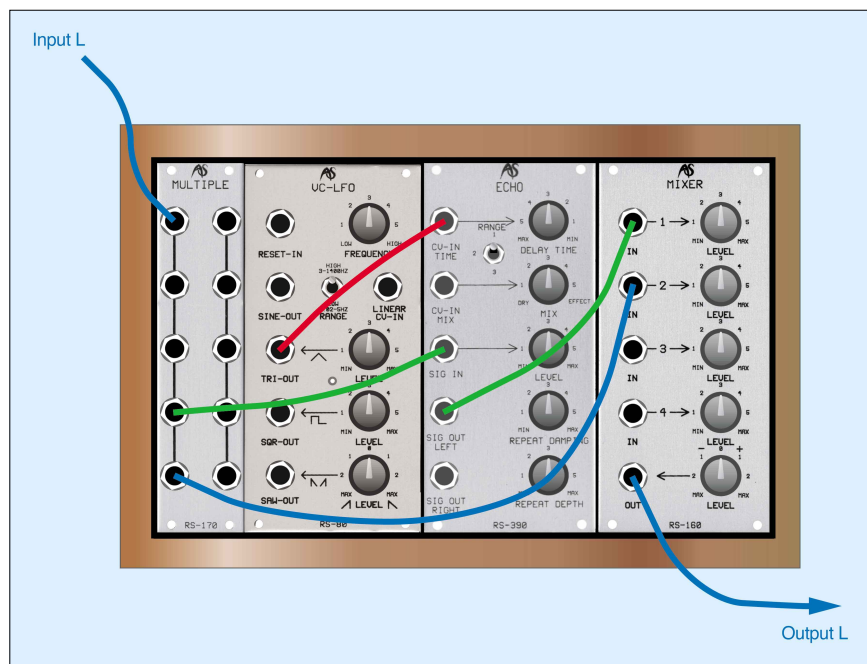

Figure 6: A simple, two-path chorus unit.
► two paths; an LFO to modulate the rate of the Echo unit (which combines the delay line and clock generator in a single module); and a Mixer to recombine the two audio signals. In Figure 6 (left), I have shown the original signal and output in blue, the modulation path in green, and the modulation signal in red, just to make things clearer.